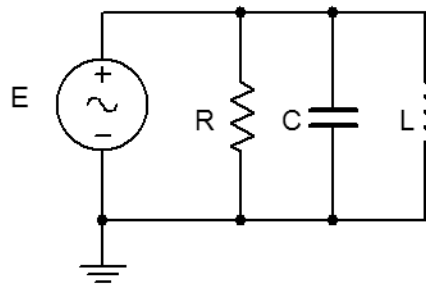

Figure 7.3
9. Using Figure 7.3 with both the $10\ \text{nF}$ capacitor and $10\ \text{mH}$ inductor (and a third sense resistor), repeat steps 1 through 7 in like manner, using Tables 7.5 and 7.6. Note that it will not be possible to see all four waveforms simultaneously in step 5 if a **two channel oscilloscope** is being used. For a **four channel oscilloscope**, place a probe across each of the three sense resistors.